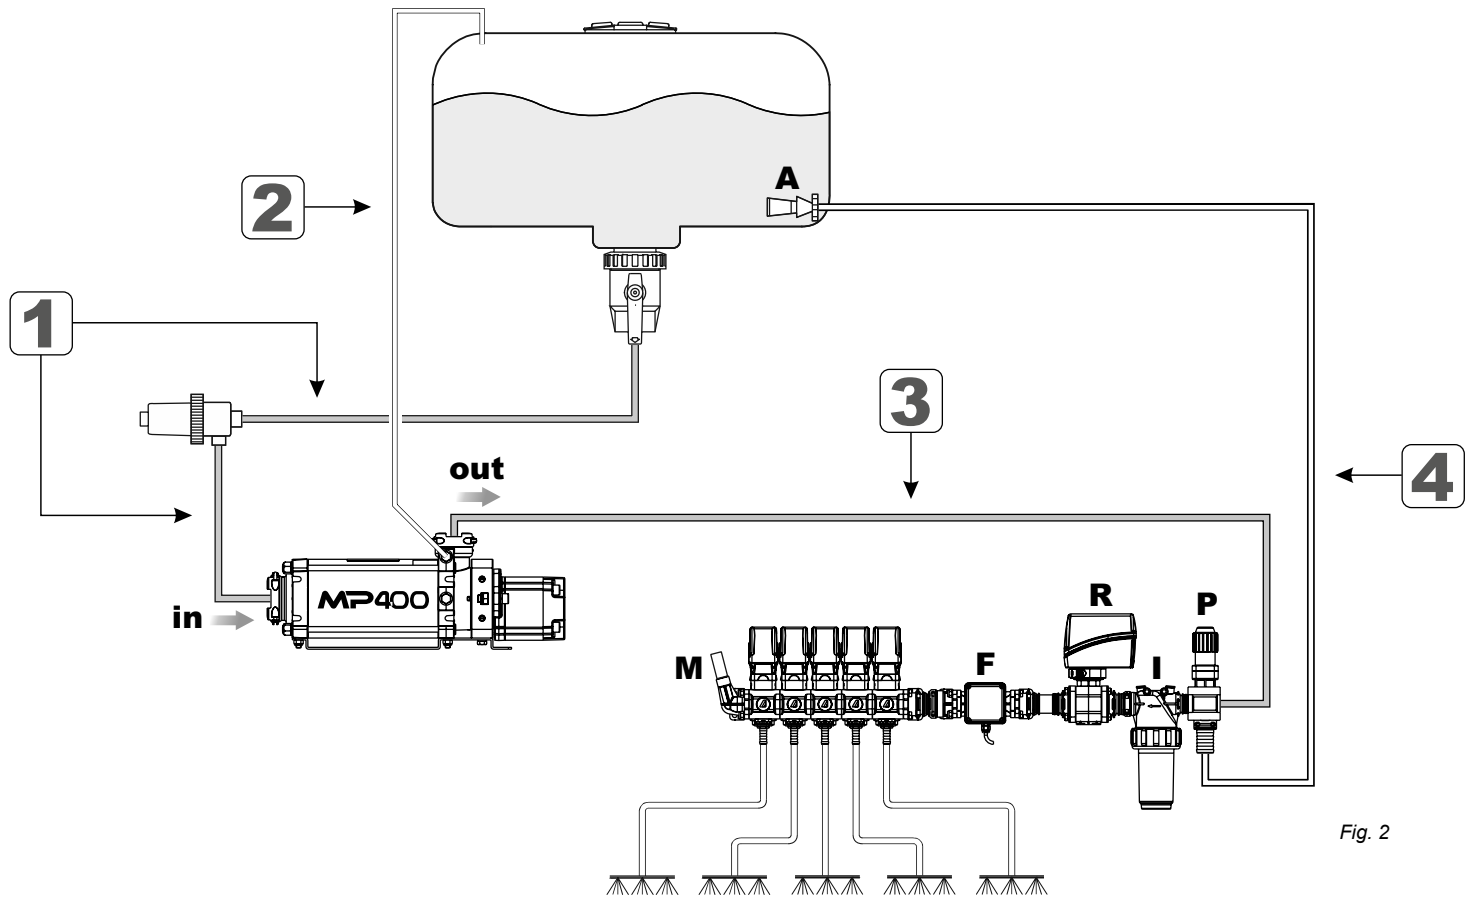

Fig. 2
- Install a breather pipe (Item 2 Fig. 2) in one of the delivery retaining plugs placed on the pump. The tube diameter must be 6 mm or 1/4".